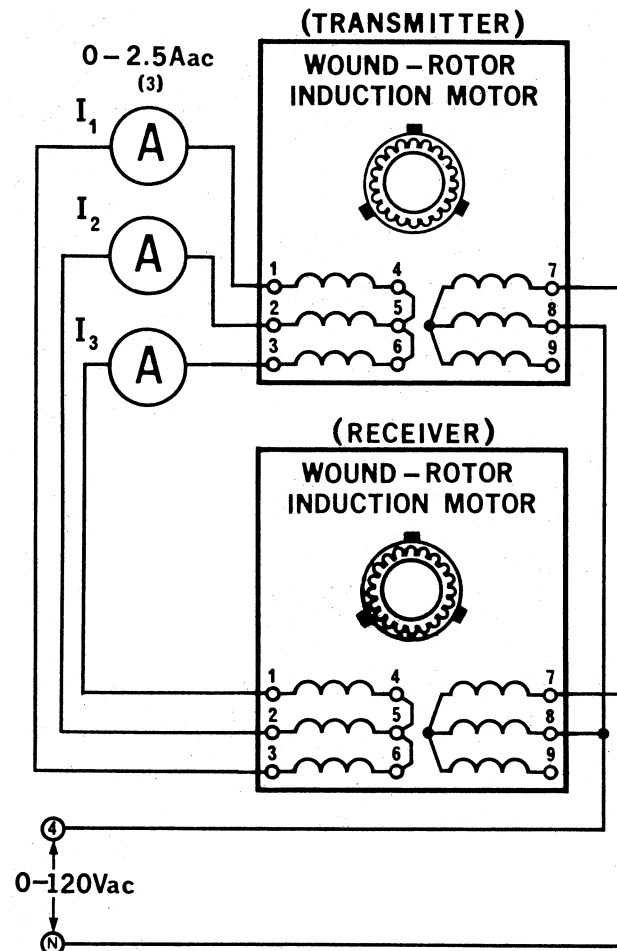

Figure 17-3.
5. Using two Three-Phase Wound-Rotor Induction Motor, connect the circuit shown in Figure 17-3. Note that the stator windings of each motor are connected to each other. The rotor windings are paralleled and connected to the variable 0-120 V ac output of the power supply terminals 4 and N.